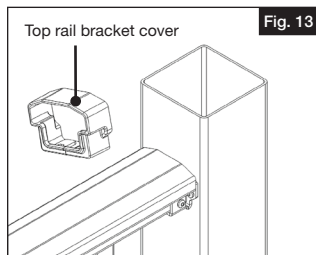

Fig. 13
- Open the top rail bracket cover to allow it to wrap around the top rail (Fig 13). While open, make sure the "tab" fits behind the rail and against the post.